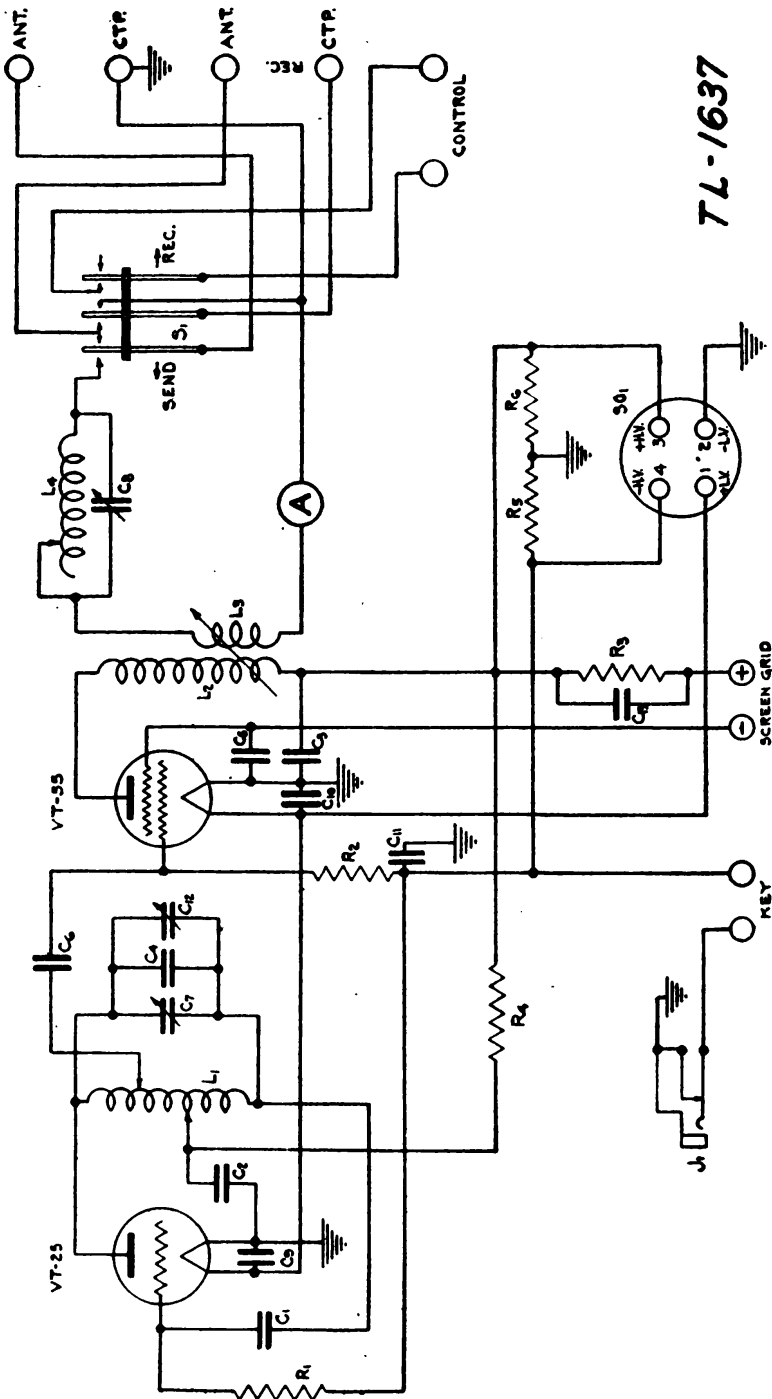
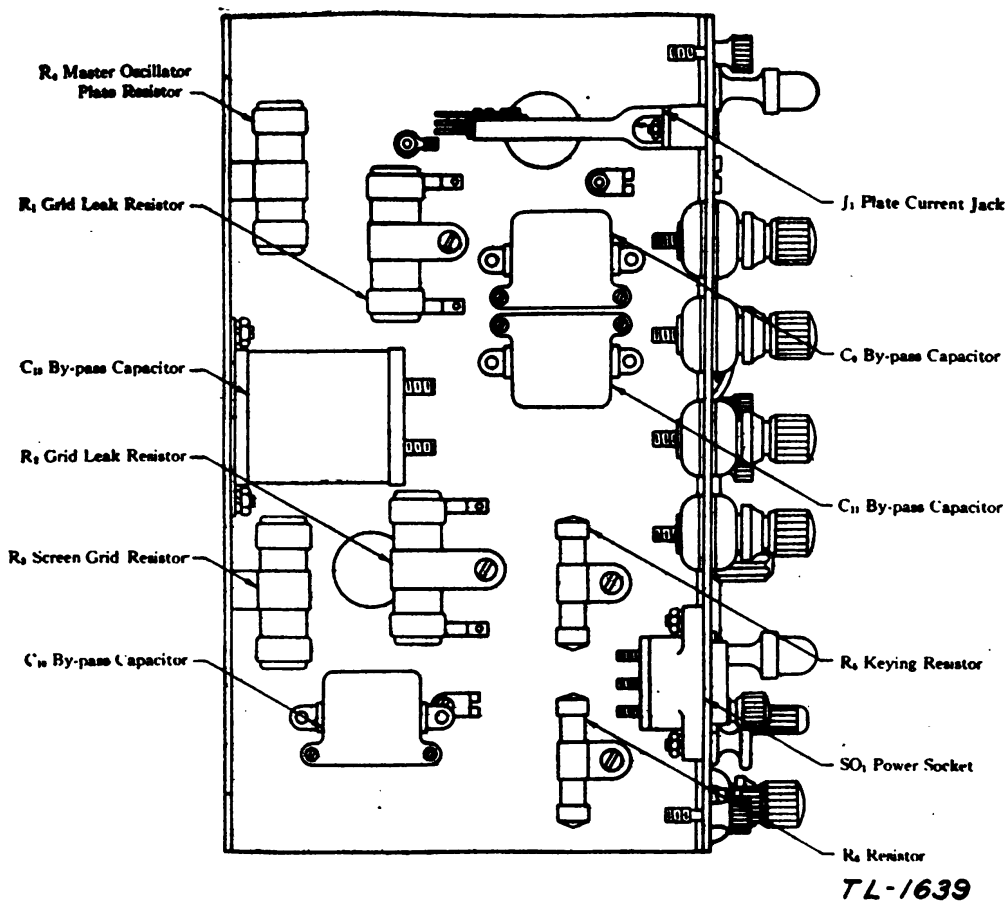

FIGURE 15.—Radio transmitter BC-187, circuit diagram. (Circuit elements.)
FIGURE 17.—Radio transmitters BC-187 and BC-187-A, bottom view.
NOTE.—The following detailed analyses are given with reference to the schematic diagrams and circuit element drawings shown in figures 15 to 30, inclusive. Descriptions of parts represented by code figures are given in paragraphs 26, 27, and 28.
**14. Radio transmitter BC-187 (figs. 15, 16, and 17) or BC-187-A (figs. 17, 18, and 19).—**These units are interchangeable, and differ only in minor respects (see par. 26).